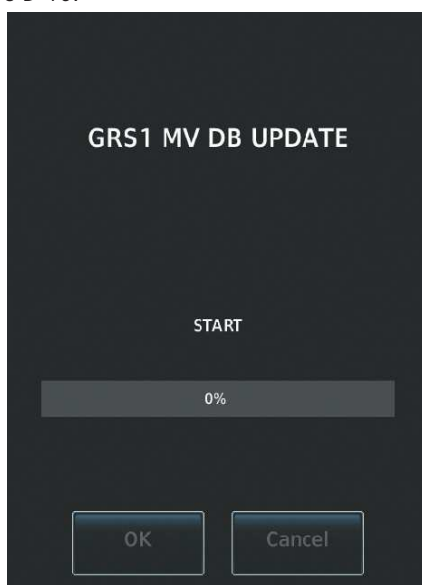

Figure B-16 Uploading Database to GRS1
- 1) With the MV DB prompt displayed, as shown in Figure B-15, touch the **OK** Button. A progress monitor is displayed as shown in Figure B-16.